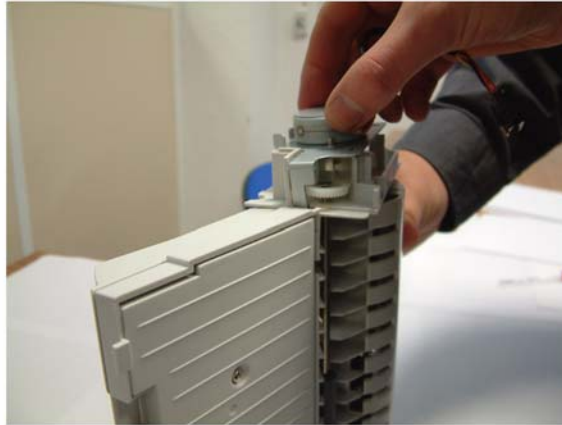

Figure 2
2. Lift and remove the motor frame. Take note of the location of the teeth gears, then remove them, Figure 2.